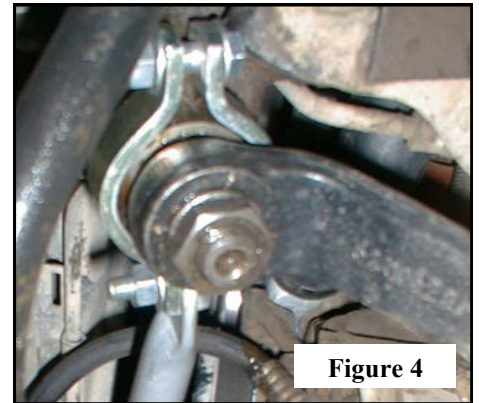

Figure 4
- Install the clamp on the steering box housing just above the pitman arm. The proper assemble sequence is: 7/16x1-3/4" bolt with one flat washer under head. Clamp half. Steering brace. Clamp half. Flat washer, crimp-Loc nut. **See Figure 4**. Make sure that the steering pitman arm and clamp halves do not contact each other.